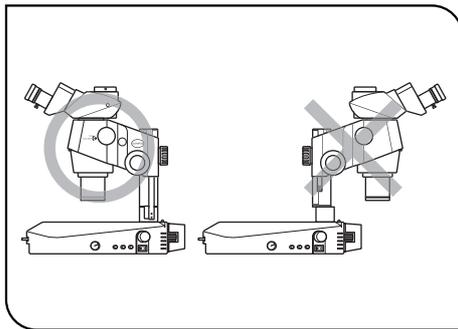

Fig. 1
5. To prevent the microscope system from turning over, always install the microscope body in the orientation as shown with the O marking in the figure on the left, and its left-right pivot angle must be limited to 30°. (Figs. 1 & 2)